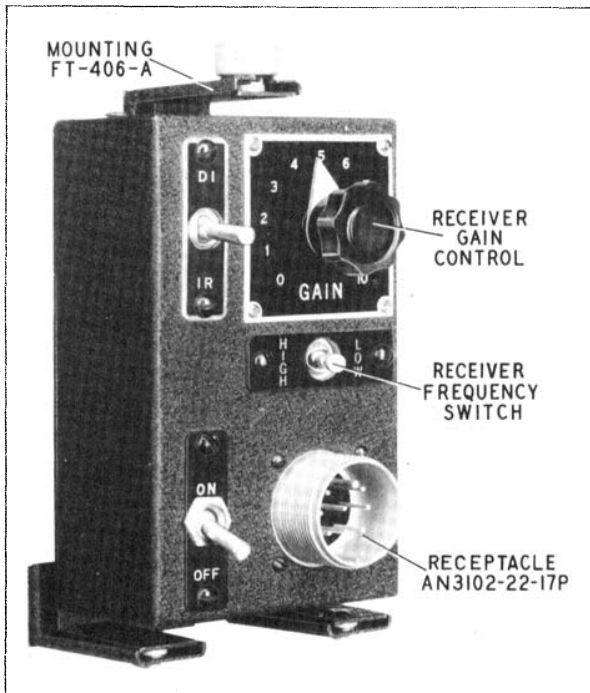

Figure 4 — Radio Control Box BC-1145-A
c. RADIO CONTROL BOX BC-1145-A. — Radio Control Box BC-1145-A contains switches to turn on the components of Radio Set SCR-729-A, a receiver gain control, and a frequency selector switch. The "ON-OFF" switch controls the a-c power to the receiver-transmitter, the indicator, and also the d-c power in the receiver-transmitter. The "DI-IR" switch has three positions, namely, "DI" for constant operation, "IR" for momentary operation and a center position for standby operation. The "GAIN" control adjusts the output of the receiver. The "HIGH-LOW" switch controls the frequency of the receiver. See figure 4 for an illustration of this unit.